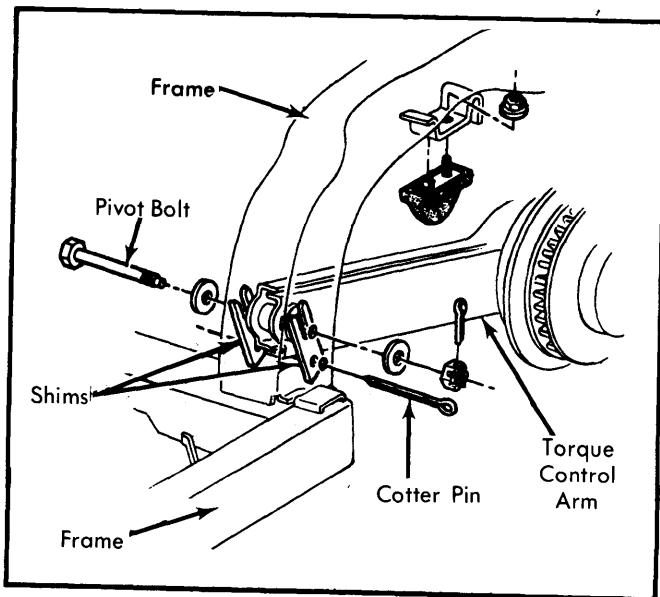

Fig. 28 Rear Suspension Toe-In Shims (Corvette)
3) Shim outboard gap as necessary to obtain solid stack-up between control arm and inner wall of frame side member. Install cotter pin (loop outboard) through the shims and tighten pivot bolt to 50 ft. lbs. See Fig. 28.